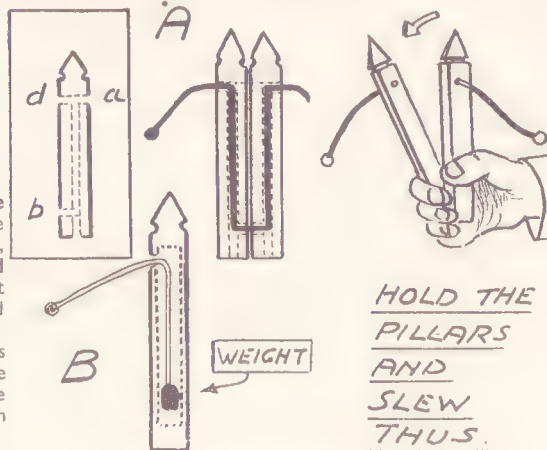

Fig. 2—How the 'Pillars' are made and operated
Fig. 2 (A) shows how this feat of joining a cut cord is done. Each pillar is drilled down its length, with horizontal openings (a) and (b) at the top and bottom. The cord is fed through one of the horizontal holes, down the centre boring, through to bottom 'sideways' hole into the next pillar, up through its vertical boring, and so out. The appearance of going straight through from side to side, however, is very complete.